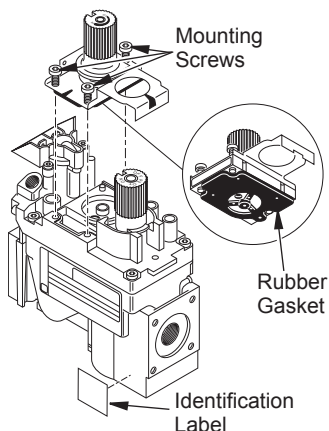

Figure 52 - Installing New Parts for Gas Control Valve Conversion
2. Insure that rubber gasket is properly positioned on new pressure regulator assembly. Install new pressure regulator assembly to valve using new mounting screws supplied with kit. Tighten screws securely (approximately 25 in/lb). See Figure 52.
3. Install identification label enclosed with gas valve regulator to valve body where it can easily be seen (see Figure 52).